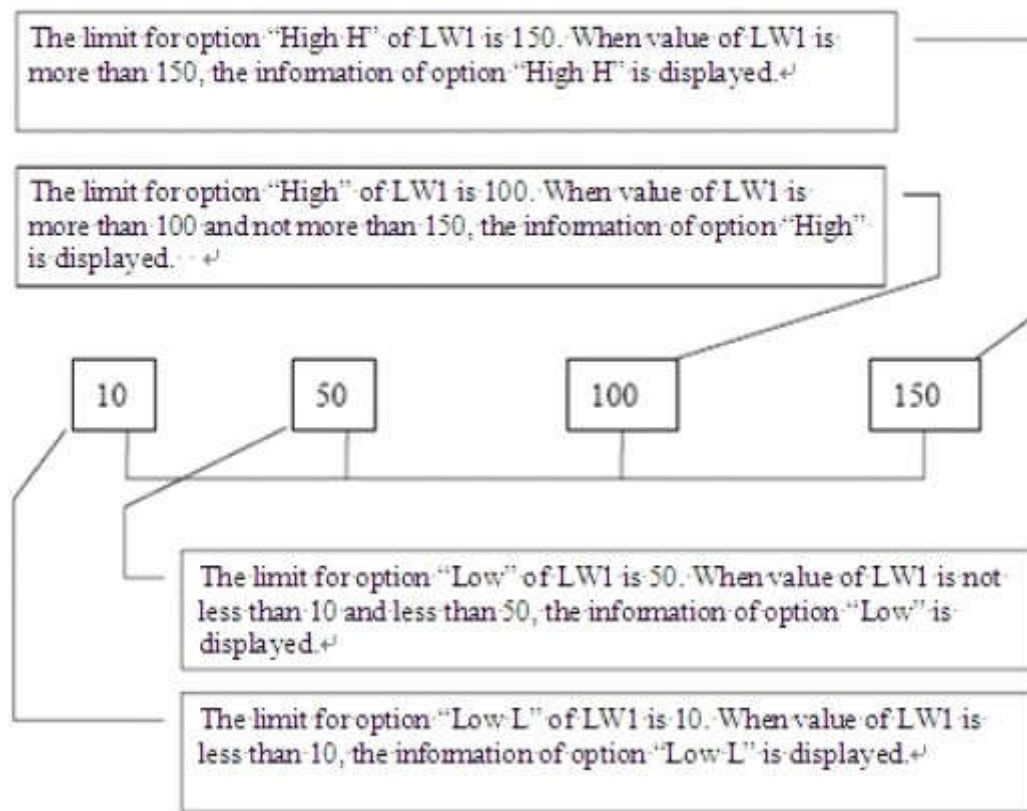

Figure 7-28 Diagram of the four address values for the LW1 address
- Select the total number of alarms in the "Size" option, which means the total number of addresses; data type decides the way to read address. Each address value is set firstly as the 16-bit data type and it is continuous. But the data type can be changed. As shown in Figure 7-28, the LW1 address chooses a 32-bit positive integer while LW3 and LW4 values are 16-bit positive integers. Therefore, when 32-bit data is selected for an address, the later address value to be read is added by 2 on the basis of the former address value; and if the 16-bit data type is selected, the later address value to be read is the former value plus 1.
- Click each item to input a value in the "Limit" box on the right; then enter the text information (alarm content) in the "Text" box. Here assume that the message is as shown in Figure 7-28: each address value can be classified into one of four ranges-- Low, Low Low, High, High High.
As shown in Figure 7-28: